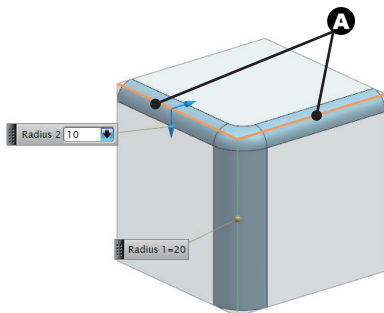

Fig 6-18 Edges to Select
10. Select the two edges designated by **A** in Fig 6-18.
Why is the **Tangent Curves** curve rule not applied when selecting edges in Fig 6-18?